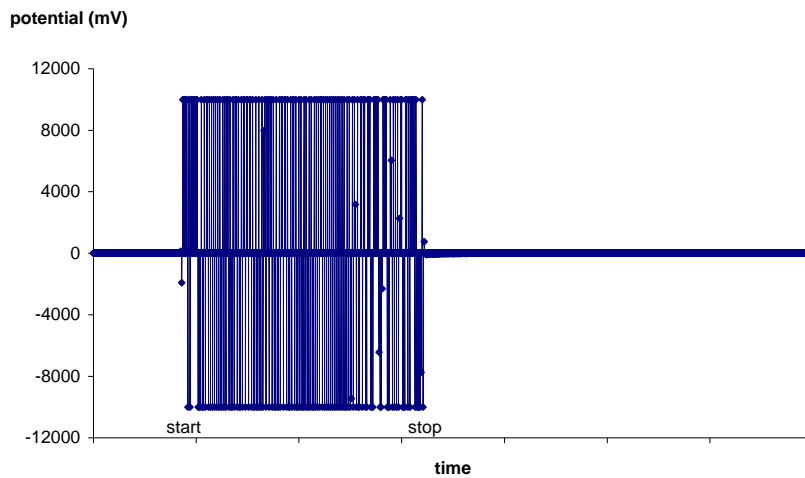

Figure 2: BUZZ function of the ELC-03XS (CC Mode)
- CC:** The BUZZ circuit is activated (duration set by **48**). To facilitate the penetration of the cell membrane the BUZZ circuit is provided which is based on oscillations caused by overcompensating the capacitance compensation system. The overcompensation of capacitance compensation yields to very powerful high-frequency (approx. 2 kHz) oscillations (see Figure 2).
(3) REMOTE connector